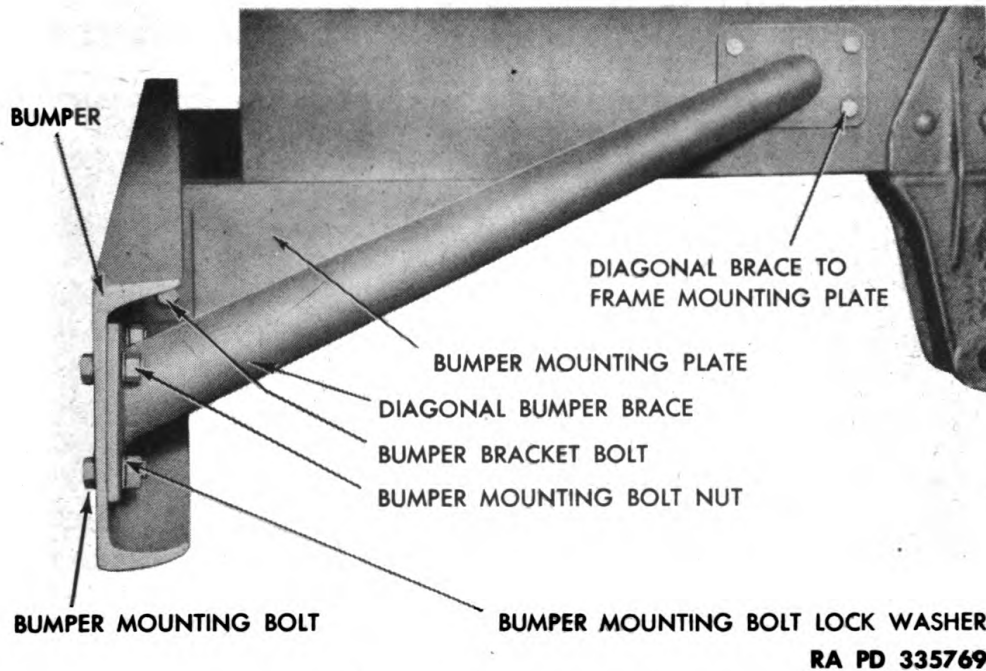

Figure 38—Bumper
(4) BUMPER. The semitrailer bumper consists of a 6-inch structural channel attached by bolts and mounting plate brackets to the main frame channels. The bumper is further reinforced by diagonal braces bolted to bumper and frame (fig. 38).
(2) **BUMPER.** Because of its purpose and exposed location, the bumper is more liable to damage than any other unit of the frame assembly (fig. 38). Since the bumper, as well as its diagonal braces, can be detached from the frame by removing the bumper mounting bolts, a bent or otherwise damaged bumper may be removed for repair.